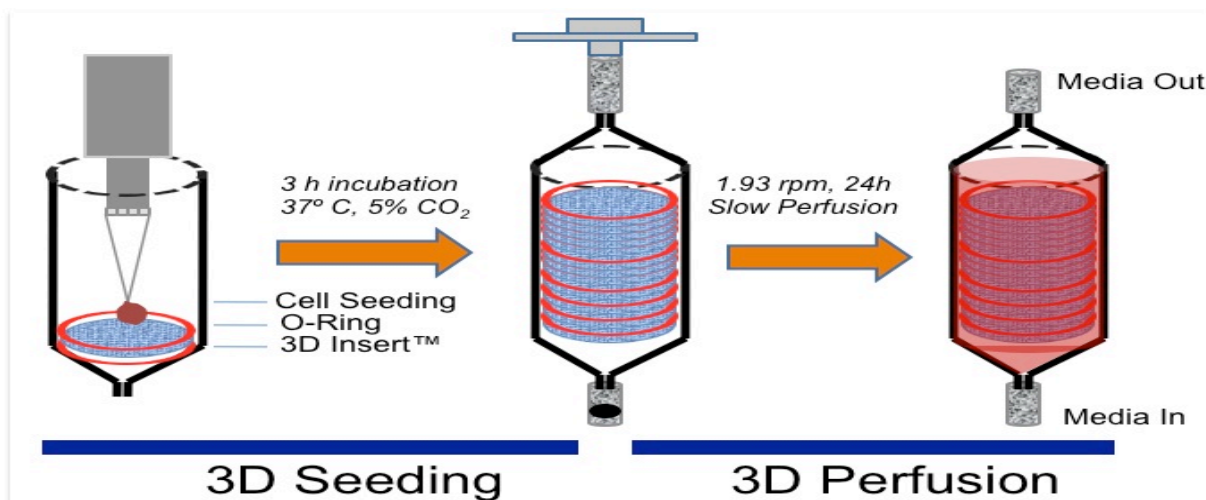
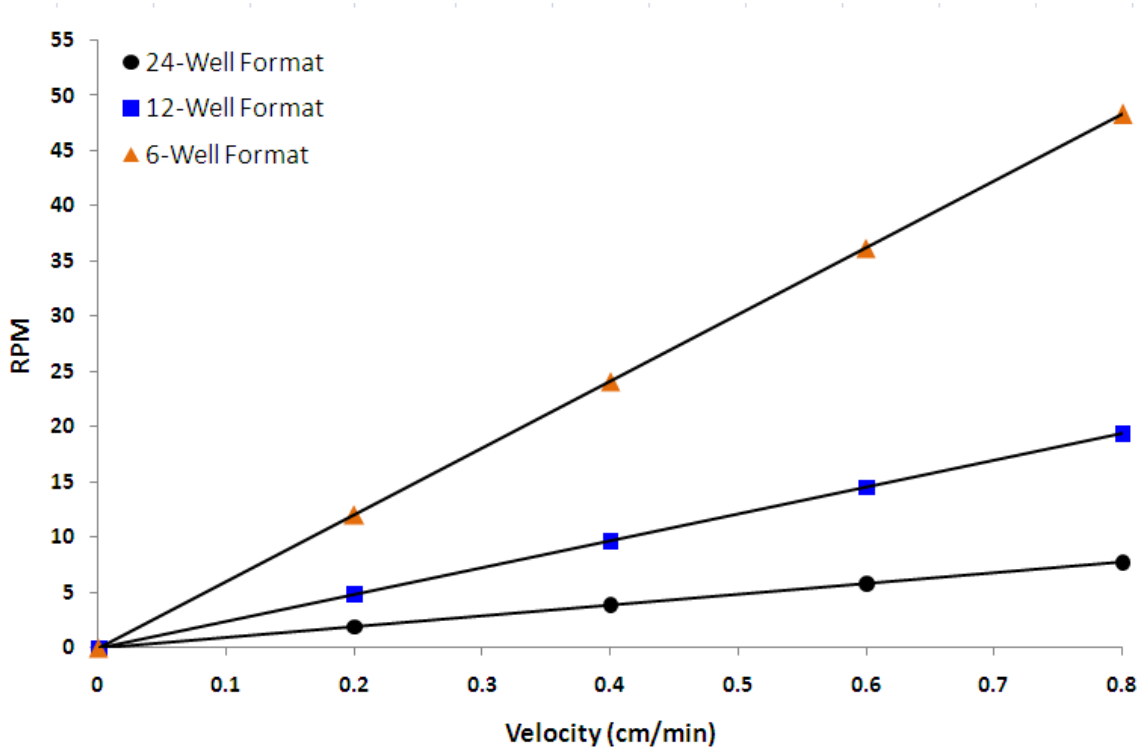

Figure 4. 3D Seeding and 3D Perfusion Diagram
Figure 6. Range of rpm value for a range of biologically relevant flow velocities
17. After connecting all 4 bioreactor chambers, unhook the red and white plastic stoppers (Warning: Failure to release the stoppers will cause pressure buildup during perfusion and experimental failure). Bring the bioreactor to a humidity-free incubator and set rpm to 1.9 to 2.1 (Figure 4, 3D Perfusion). Press start and allow slow perfusion for 24 hours. Figure 6 and table 8 give the values of velocities as a function of chamber format and rpm.
In figure 6, the rpm values were calculated from flow velocity of interest and the scaffold cross-sectional area by using following equation (EQ. 1)